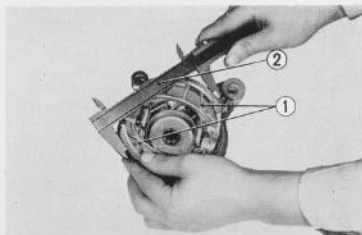

Fig. 4.90 Measuring brake lining
4. Check the brake shoes. (Fig. 4.90)